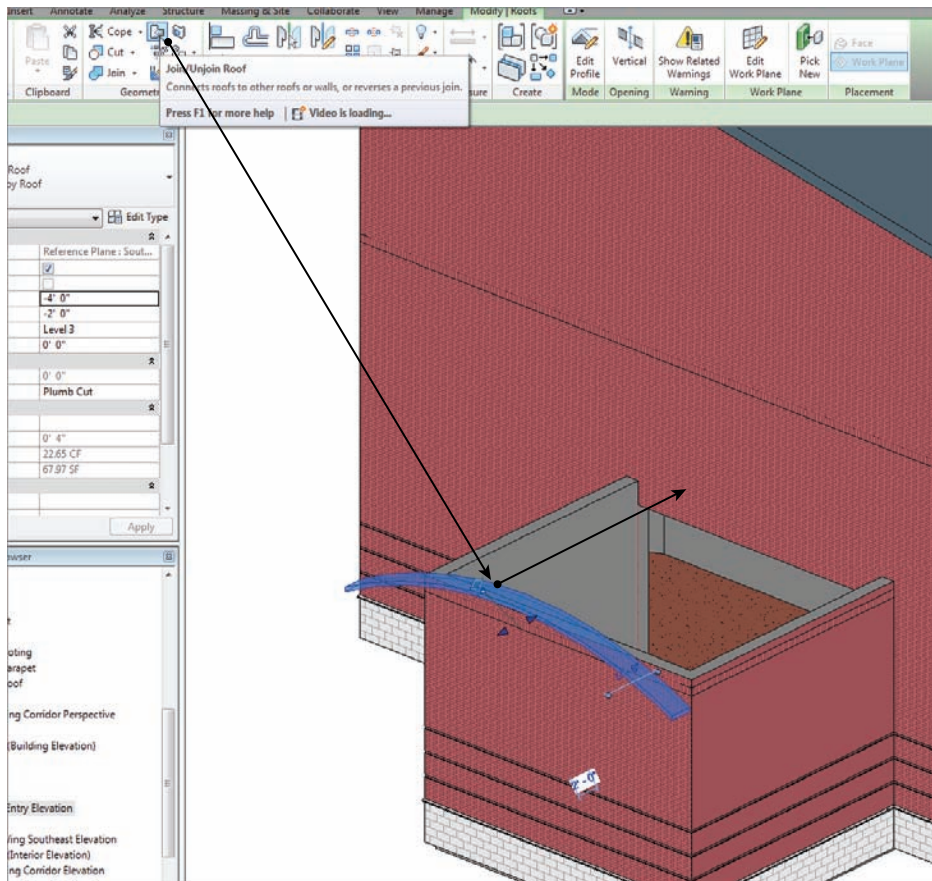

FIGURE 7.56 Picking the roof and the wall to join the two together
1. On the Modify tab, click the Join/Unjoin Roof button, as shown in Figure 7.56.
2. Pick the top, back arc on the canopy roof, as shown in Figure 7.56.
3. Pick the wall that the roof needs to terminate into (see Figure 7.56).